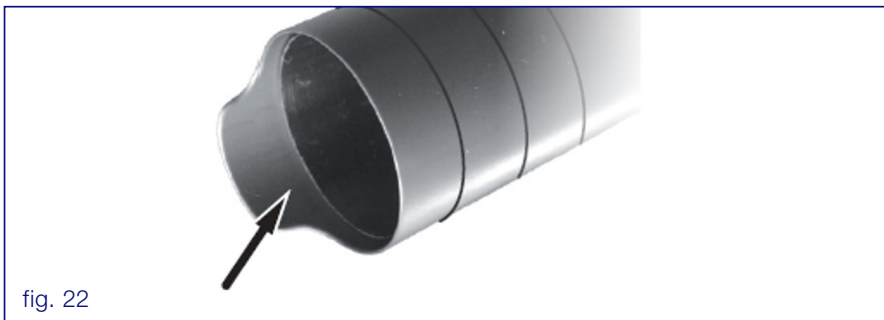

fig. 22
- The duckbill on the Protection Sleeve includes a tissue stop function designed to promote peeling and reduce coring of the tissue so that the tip of the Morcellator is always in view (fig. 22).